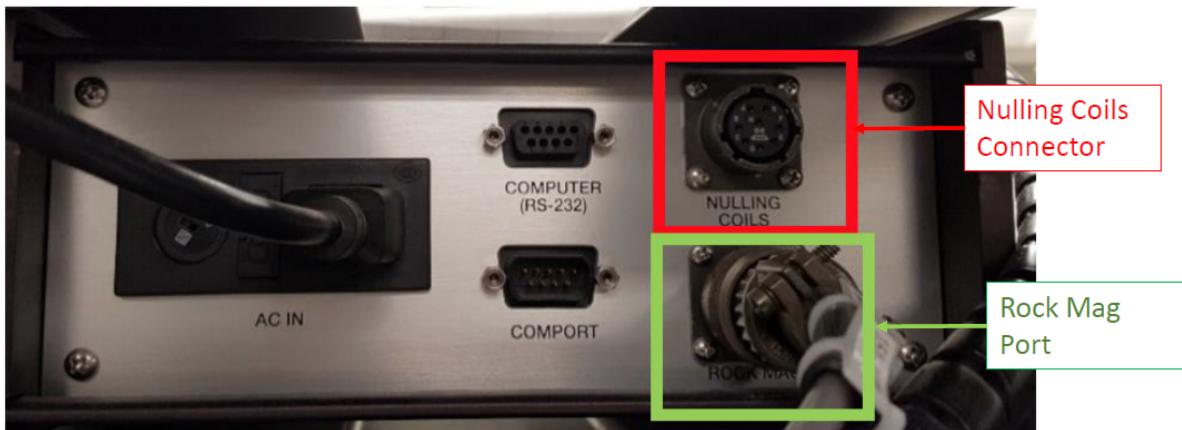
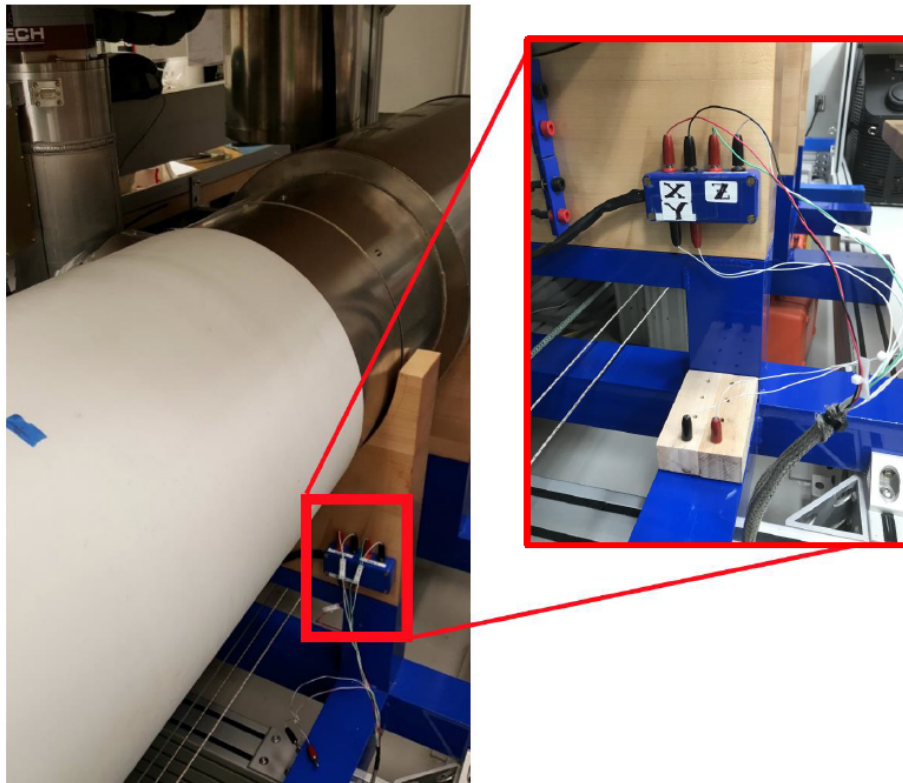

Figure A9: Back of the Model 202 Control Monitor. Note the Nulling Coils Connector in the red box, and the rock mag port in the green box.
Figure A10: Nulling cable connection ports near the junction between the SQUID measurement region and the degaussing region of the SRM.
3. Connect the nulling cable to the back of the Model 202 Control Monitor (Figure A9) and to the ports near the junction between the measurement region and the degauss region of the SRM (Figure A10). Connect the red plugs to the red terminals, black plugs to black terminals, matching the X, Y, and Z labels. The cables labeled "coil" will not be used.